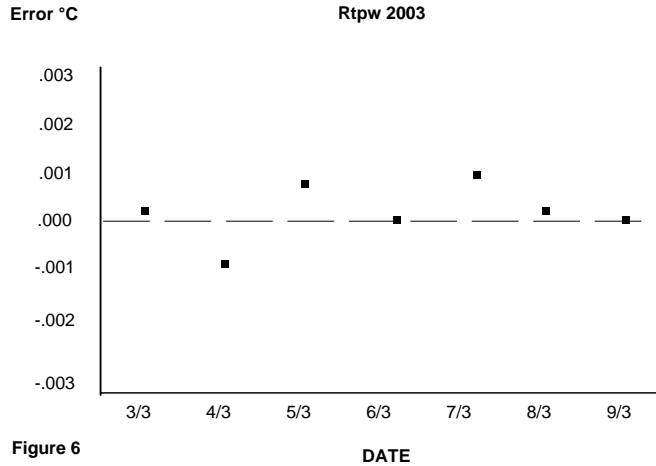

Figure 6
- 5.5 A scatter chart can be created from the recorded data. This is useful for trend analysis. Ideally, the SPRT data should appear random as in figure 6. As long as the data falls within the $\pm 0.003^{\circ}\text{C}$ window, the SPRT should not need annealing